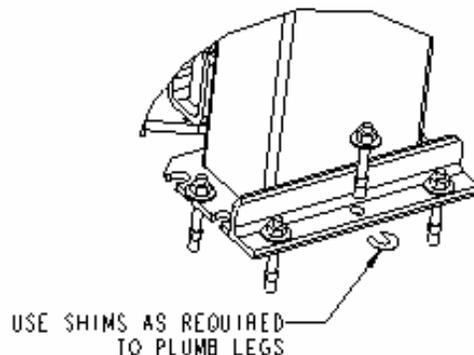

Figure 7
6. **Carriage Placement.** Disengage the latch by pulling out the latch rod at bottom of one carriage, figure 7. Slide the carriage to the leg's baseplate. Engage the latch by pushing the latch rod in. Slide the carriage up until the first "click" is heard. Repeat the process for the other carriage.
- E. Assemble the washers and nuts onto the anchor bolts. Thread the nuts onto the anchor bolts where the tops of the nuts are just above the top of the bolts, figure 7. Using a hammer, carefully tap the anchor bolts into the concrete until the washer rests against the baseplate. Do not damage the nuts or threads.